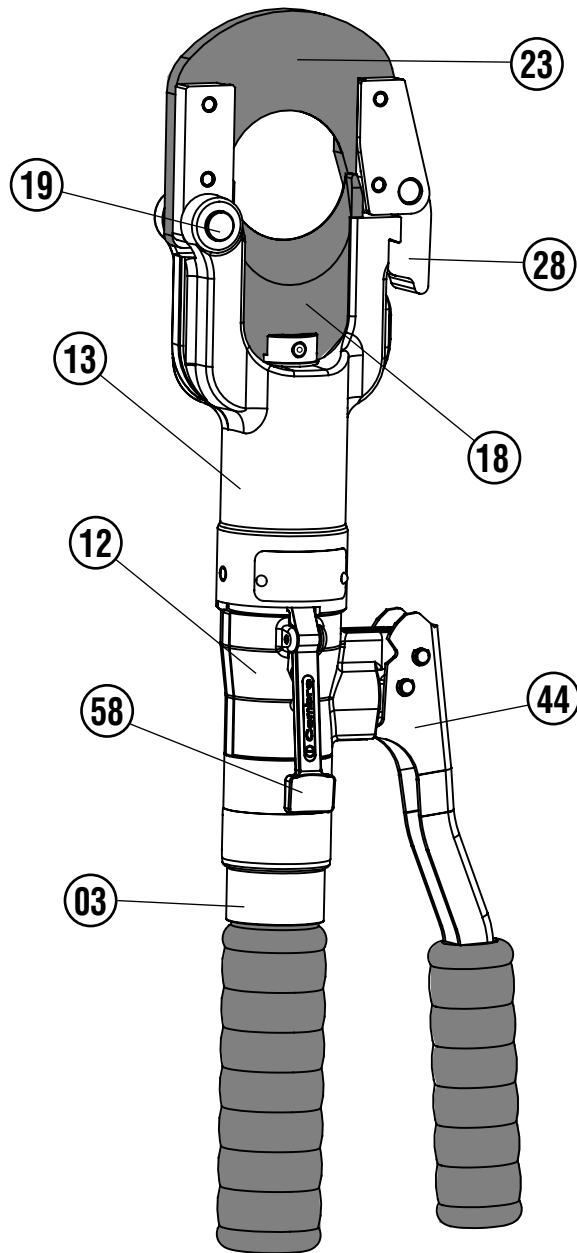

FIG. 1 OVERALL VIEW - VUE D'ENSEMBLE - GESAMTANSICHT -
2. INSTRUCTIONS FOR USE (Ref. to Fig. 1)